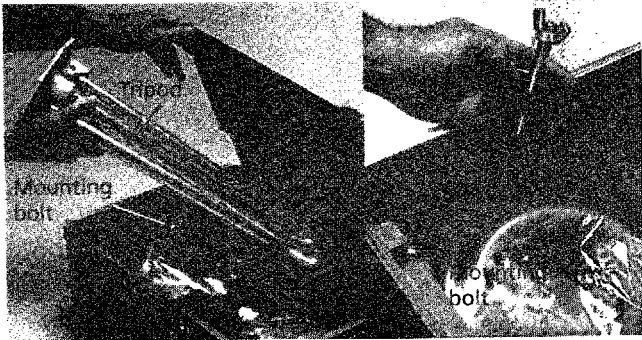

Figure 7. Remove the tripod and mounting bolt.
- Remove the tripod and the tripod mounting bolt assembly (see Figure 7).